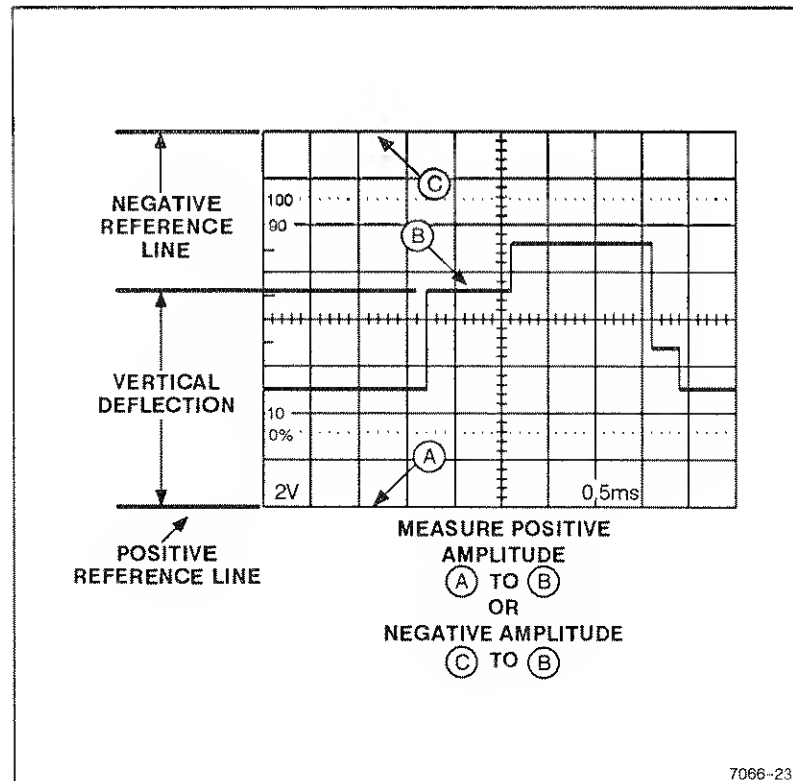

Figure 6-2. Ground-referenced voltage measurement.
4. Set the AC-GND-DC switch to DC. Measure the divisions of vertical deflection between the reference line and the desired point on the waveform (see Figure 6-2).
EXAMPLE: The vertical distance measured is 4.6 divisions (see Figure 6-2). The waveform is above the reference line, the VOLTS/DIV switch is set to 2 V, and a 10X scale-factor-switching probe is used.